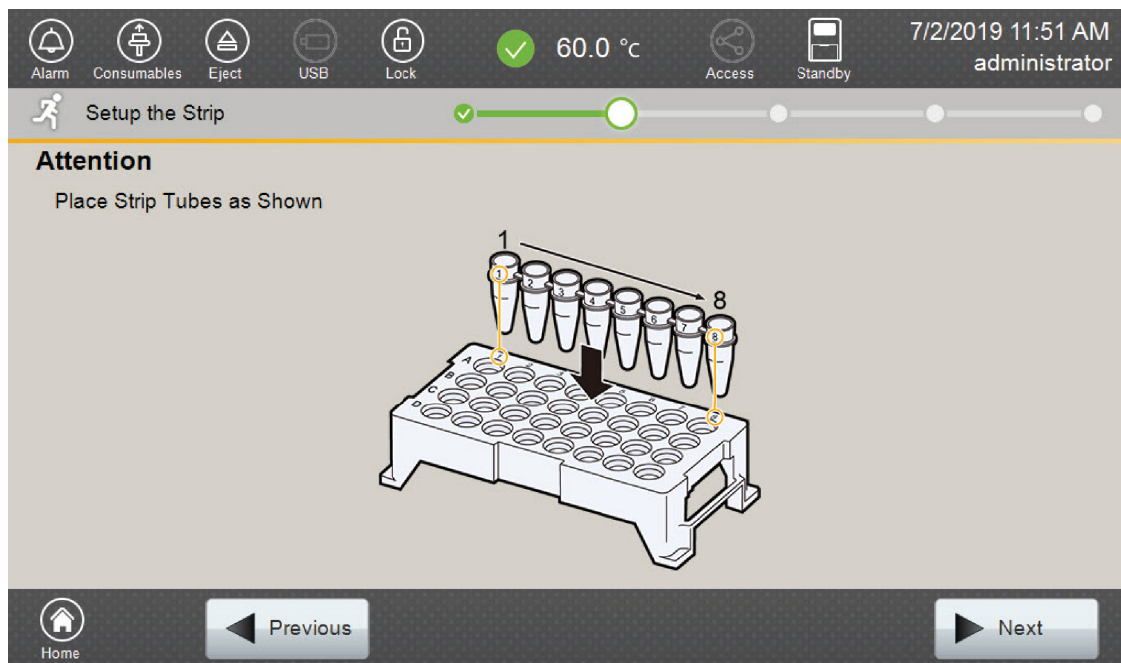
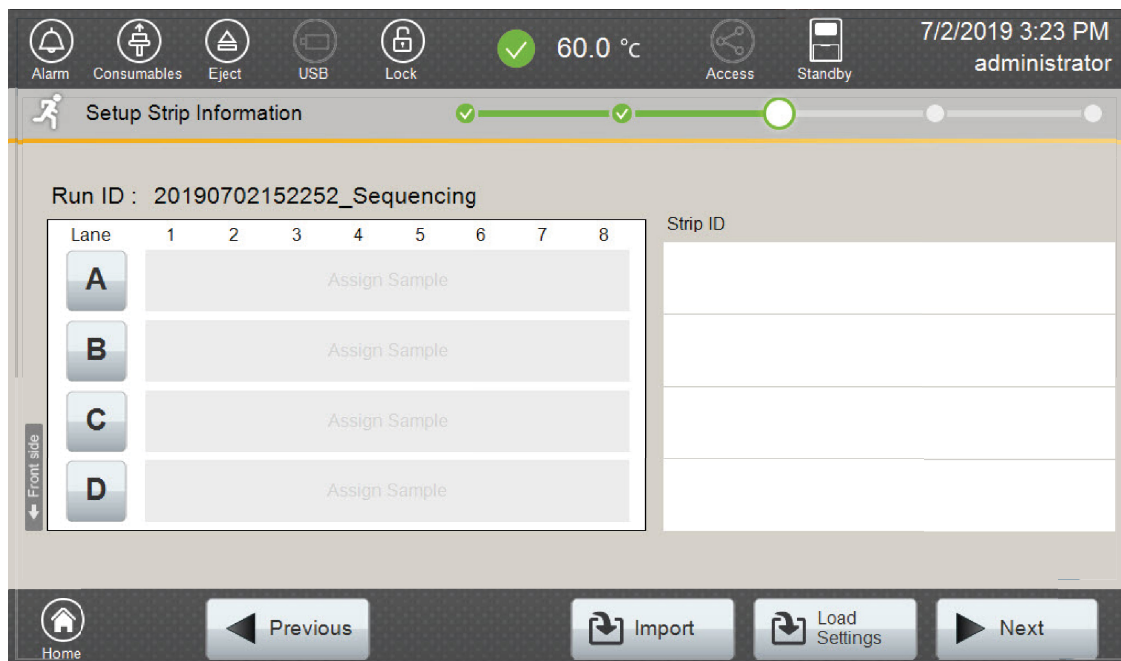

Figure 9. 'Setup the Strip' screen.
Figure 10. ‘Setup Strip Information’ screen.
5. Select **Next** to proceed to the message screen for placement of strips into the sample cartridge (Figure 9).
6. Follow the message screen for placement of strips into the sample cartridge (Figure 9).
1. Select **Next** on the ‘Setup the Strip’ screen shown in Figure 9. This will take you to the ‘Setup Strip Information’ screen shown in Figure 10.